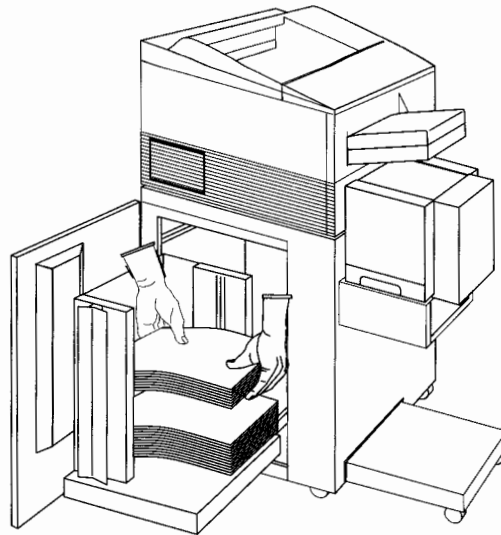

Figure 3-1. Removing Printout Paper
Refer to Figure 3-1 and the following procedure to remove printout paper from the stacker.
2. Remove all printout paper from the stacker's drawer as shown in Figure 3-1.